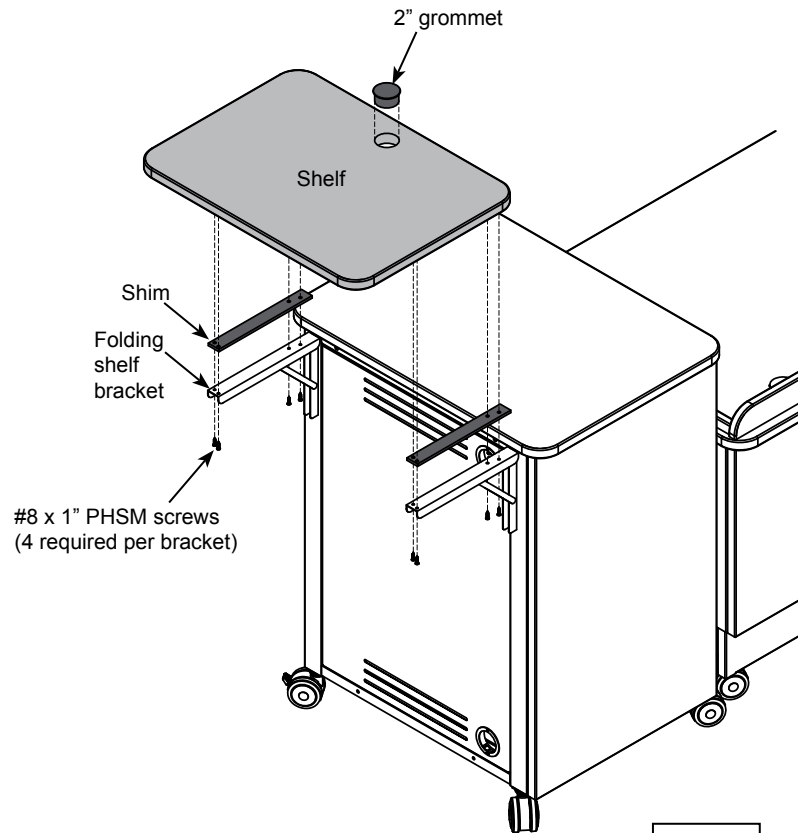

Figure 4B
3. Align and attach each bracket to the side of the lectern with (2) 8-32 x 3/8" PHM screws. Do not tighten these screws completely yet.
4. Place shims between the shelf and brackets. **Figure 4B.**
5. Attach the shelf to the fully-extended shelf brackets with (8) #8 x 1" PHSM screws. (4 per bracket.)